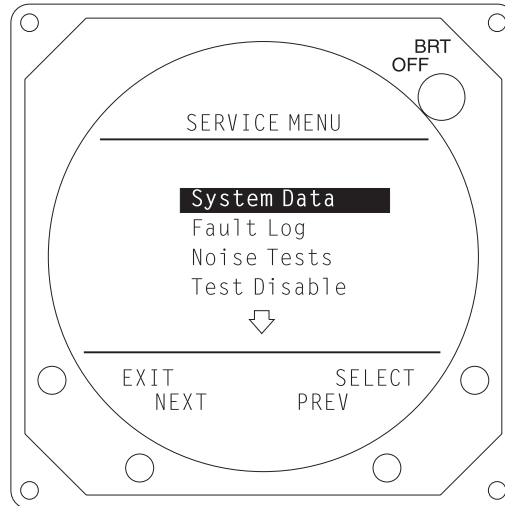

Figure 4-3. Service Menu
The Service Menu is accessed by holding softkeys (1) and (2) (the left two buttons) depressed as the system is turned on. Hold the buttons until the Service Menu is displayed. The Service Menu is shown in figure 4-3.
- **MENU** - returns to the Service Menu (figure 4-3).
Expansion Data is displayed by selecting that option from the Service Menu (i.e., press **SELECT** with **Expansion Data** high-lighted). **MENU**, the only button functional on this display, returns the system to the Service Menu display (see figure 4-3).